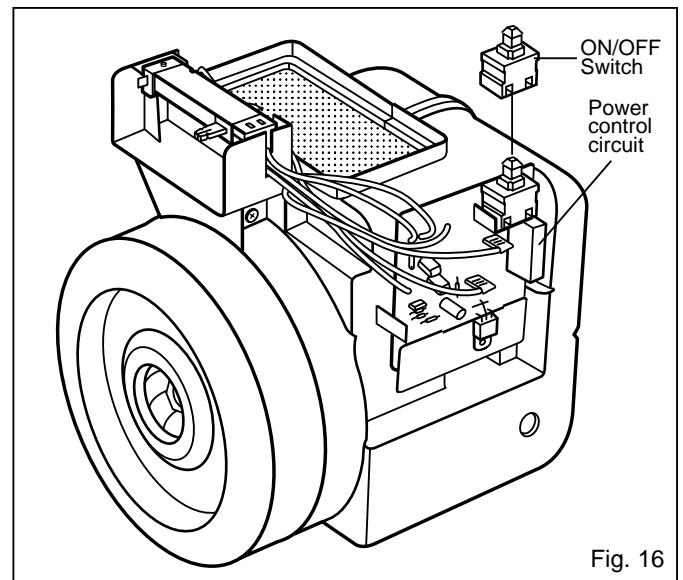

Fig. 16
1. Remove upper body as explained previously in paragraph (1) "Motor", points 1-3.
4. Remove ON/OFF switch from the power control circuit and replace with a new one. (Fig. 16)